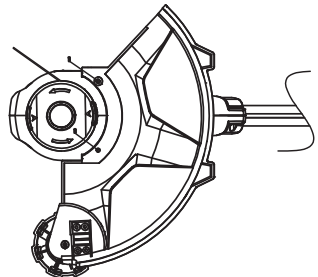

Figure 2
- b. Tighten the screws as shown in Figure 2.